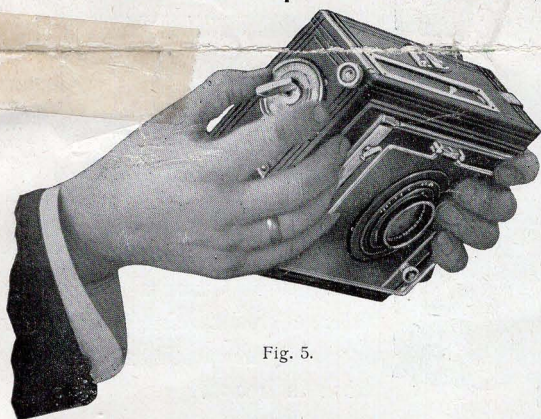

Fig. 5.
6. Alteration of the slit width. (Fig. 5)